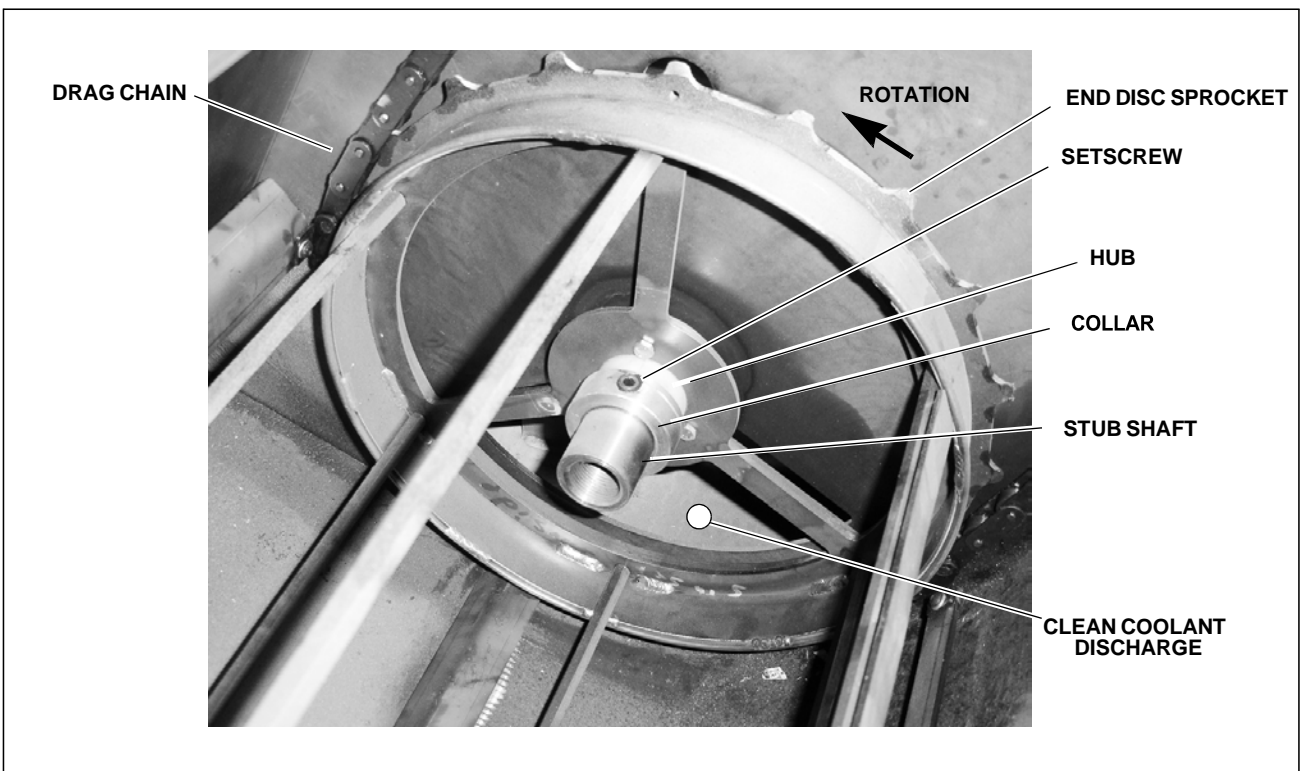

Figure 23. End Disc Assembly
9. Loosen the setscrew from the set-collars located on each of the stub axles. Figure 23.